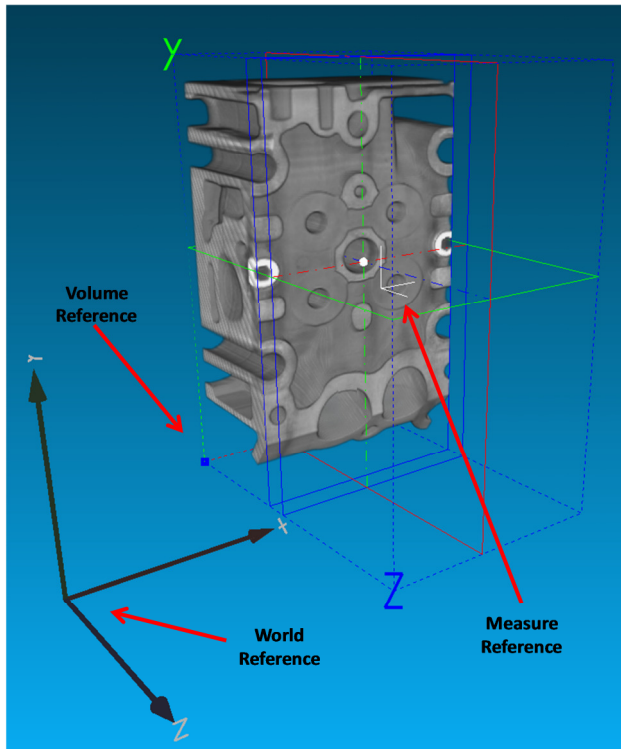

Figure 2.25: Reference axis definition in DigiXCT
Displayed volumes are expressed in a direct reference axis which center coincides with the center of rotation of the system. This reference axis, called world reference (figure 2.25) can be activated with the keyboard shortcut "a". It is used to determine the center and the orientation of a section extracted from the volume.
- A reference frame in relation with the region of interest described in the chapter about DigiR3D and named volume reference (figure 2.25)
- A reference frame for measures allowing to express them regarding to an alignment that can be in relation with CAD model (measure reference in figure 2.25)